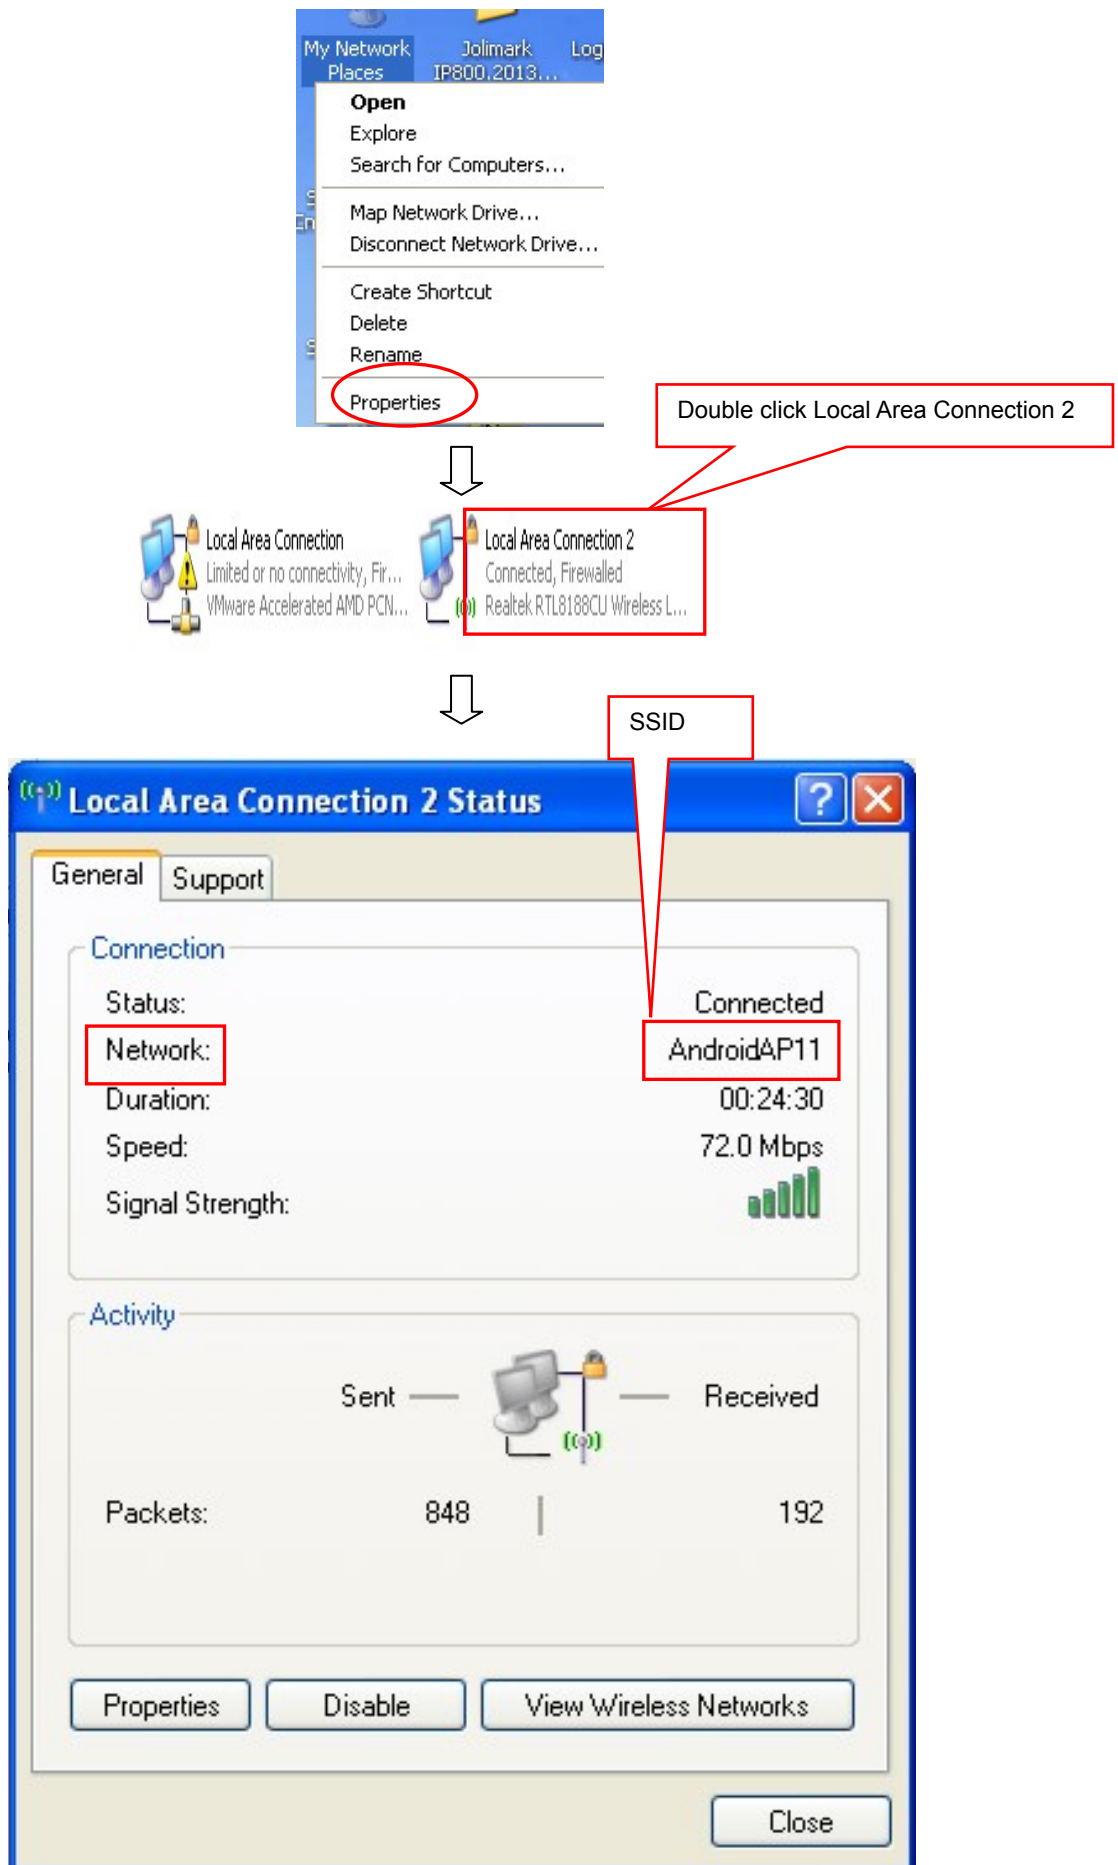

Figure 5
Right click "My Network Places", and then click "Properties" to find the "Local Area Connection 2" you are using. Double click it and the window of "Local Area Connection 2 Status" pops up. You can find the corresponding SSID network name in it. (As shown in figure 5)
- (1) Click “Support” in the window of “Local Area Connection 2 Status”. (Get reference in figure 5)